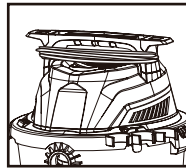

FIGURE 15
43. Before storing your vacuum cleaner the tank should be emptied and cleaned. The power cord can be wrapped around the top handle on the tank cover. **FIGURE 15.**